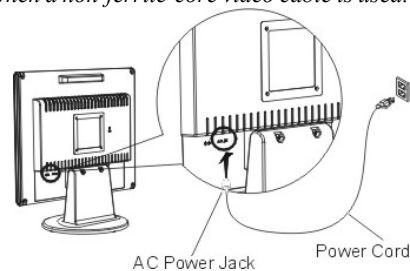

Figure 1-6
1. Connect the power cord to the Monitor AC socket. (See Fig. 1-6)